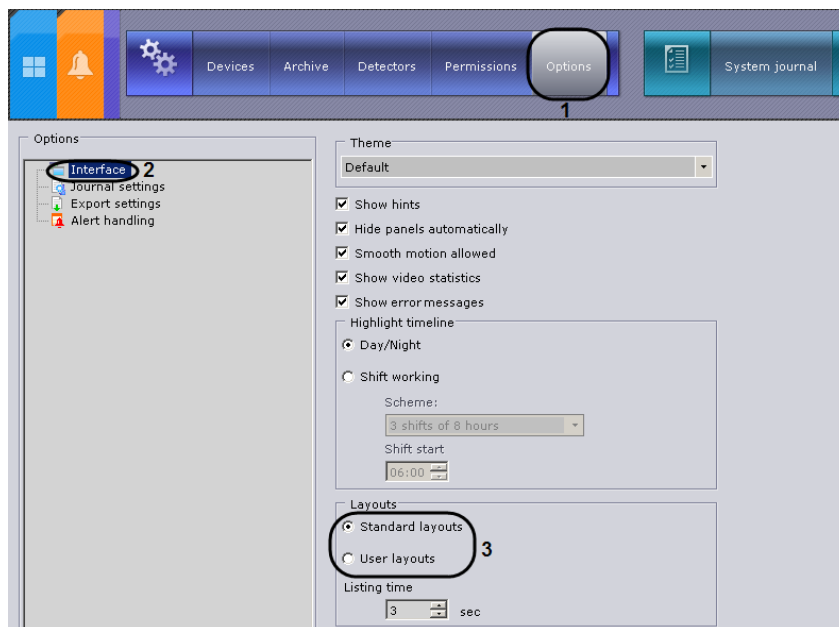

Fig. 6.8—1 Selecting a Layouts ribbon work mode
1. Go to **System settings**⇒**Options**⇒**Interface** (Fig. 6.8—1, 1-2).
2. Select the layout type in the **Layouts** configuration group (see Fig. 6.8—1, 3).